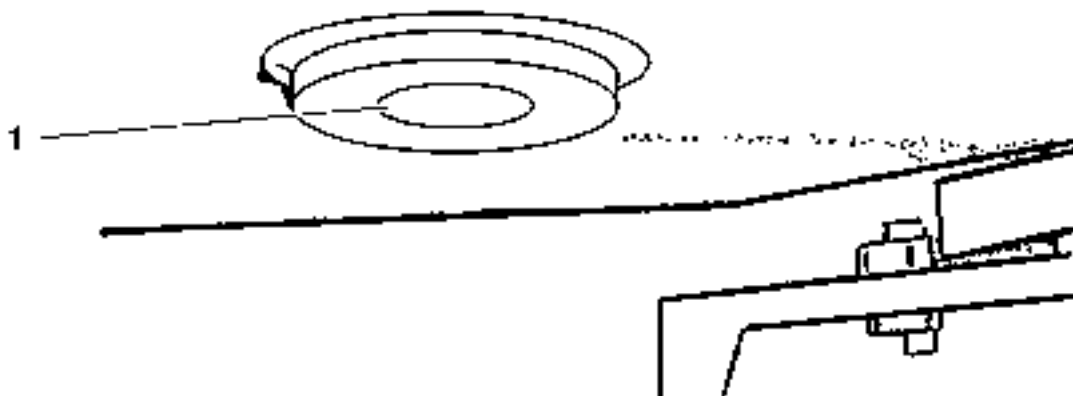

Fig. 5.44. Rear Frame drain Plug
5.18.2. CHANGING TRANSMISSION SYSTEM OIL (Fig. 5.44)